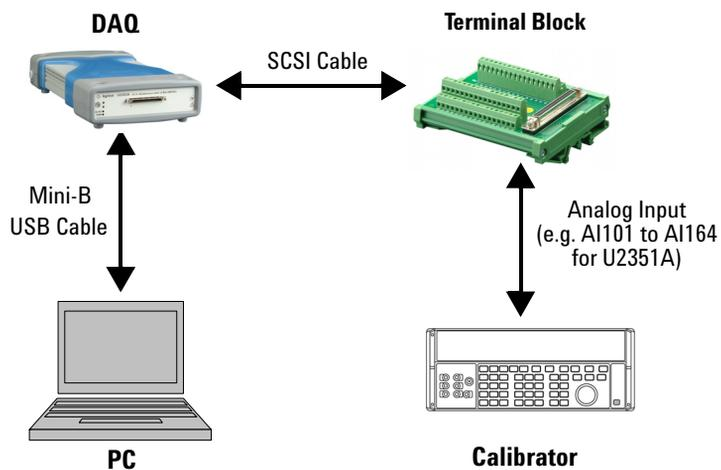

Figure 2-6 The analog input and calibrator connection
- 5 The **Agilent Interactive IO** dialog box will appear as shown in Figure 2-6. Click **Send & Read** to send the “*IDN?” default command. This instrument’s response should appear in the **Instrument Session History** panel.